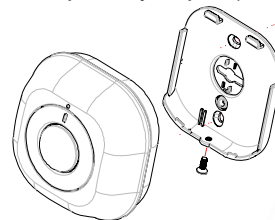

FIGURE 2
- Undo and remove the screw from the bottom edge of the detector to detach the rear cover (FIGURE 2).